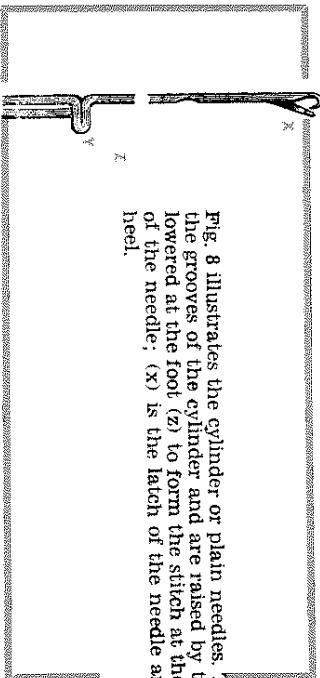

Fig. 8
Fig. 8 illustrates the cylinder or plain needles. These fit into the grooves of the cylinder and are raised by the cams and lowered at the foot (Z) to form the stitch at the top or hook of the needle; (X) is the latch of the needle and (Y) is the heel.
In knitting plain work the handle (504A) is moved round towards the back from the top; this operates the driving wheel (502A) which in turn moves round the gear-ring (509A), and coming in contact with the lug (X) of the cam shell (512A) drives the cam shell round. For the direction in which to turn the handle see illustration Fig. 3. Here the handle is at the top and is to be pressed down towards the back. This is called the Forward movement; the reverse way is called the Backward movement. It will be well to make a few turns of the handle with the needles in the machine and the belt on, but without work upon the needles to see the action. It will be seen that the needle first rises somewhat at cam B (Fig. 5); this is so that the last stitch knitted will pass below the latch. The hook of the needle is now depressed by cam A (Fig. 5), and at the same time receives the new wool, and as the needle passes below the top of the cylinder, the latch (X, Fig. 8) is closed by the old stitch, which passes over to the inside of the cylinder. To learn which cams give the different movements to the needles, read the paragraph on the cam shell (page 10) while making the few turns of the handle.